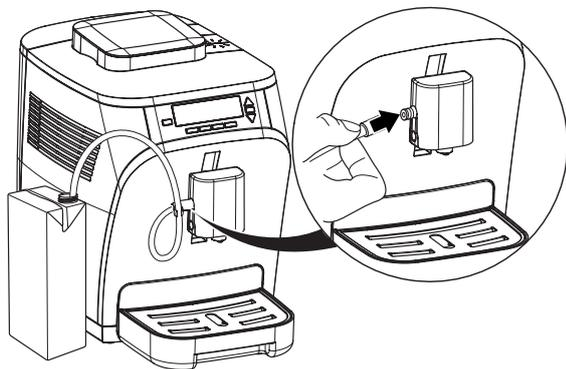

fig. 6: Connecting the milk tube
1. Plug the milk tube onto the connection on the coffee-milk dispenser and place the other end of the tube in the milk container (fig. 6), or connect the filled thermo milk-jug to the automatic coffee maker.